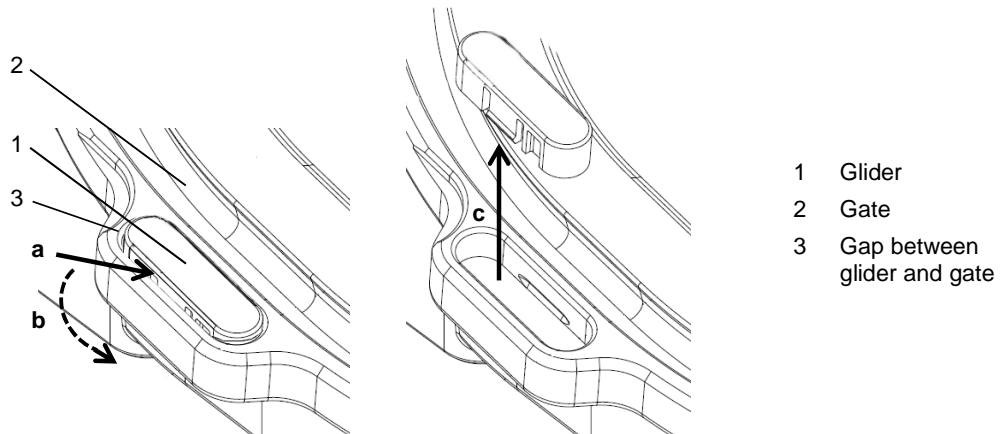

Figure 7-4
11. Remove gliders from the front and backside of the gate with a small, edge shaped tool e.g. screwdriver. Squeeze tool into gap between glider and gate (a); see «Figure 7-4». Push down the tool (b) to release glider from pocket and remove glider (c).